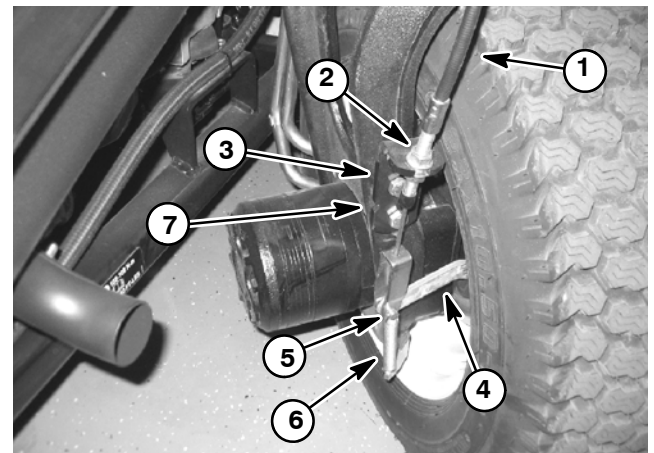

Figure 22
3. Loosen, but do not remove, wheel lug nuts and wheel motor shaft lock nut (item 23) at rear steering fork to be removed.
5. Remove rear wheel assembly, brake drum, wheel hub (item 12) and brake assembly (item 17) from the machine (see Brake Service in this section).
6. Disconnect brake cable from brake actuator lever and brake bracket (Fig. 22) (see Brake Cables in this section). Position brake cable away from steering fork.
2. Install thrust washer (item 7) onto the steering fork spindle and slide the spindle up through the axle tube. Hold the steering fork in place and install the upper thrust washer (item 11) and retaining ring (item 19) onto the end of the spindle. Make sure that retaining ring is fully seated in spindle groove.
3. Place the spindle cap (item 20) to the top of the steering fork spindle and secure with flange head screw (item 21).
- B. Apply Loctite #271 (or equivalent) to threads of cap screws (item 6).
- C. Secure wheel motor and brake support to steering fork with four (4) cap screws and lock washers. Torque cap screws from **94 to 116 ft-lb (128 to 157 N-m)**.
- D. Secure bulkhead bracket (item 32) to steering fork with two (2) cap screws (item 34).
- NOTE:** Brake bracket should have notch orientated toward machine frame (Fig. 22).
6. Install brake cable to brake actuator lever and brake bracket (Fig. 22) (see Brake Cables in this section).
8. Install brake assembly (item 17), wheel hub (item 12), brake drum and rear wheel assembly to the machine (see Brake Service in this section).